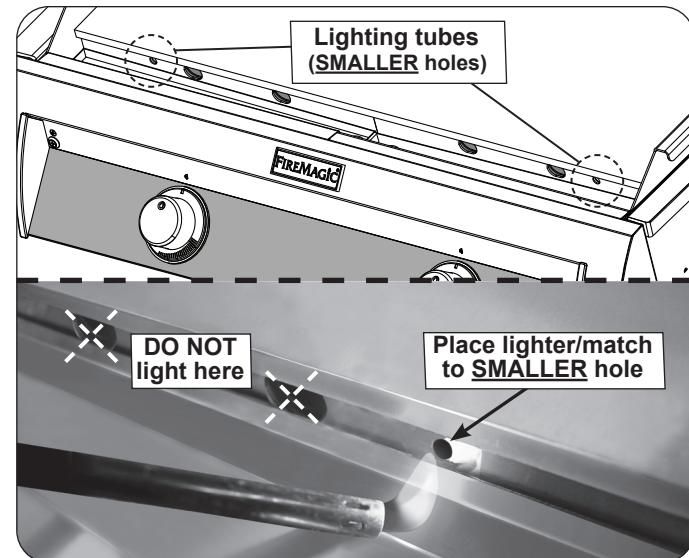

Fig. 37-3 Manual lighting
2. Hold a burning long-barrel butane lighter or burning long-stem match up to the opening of the lighting tube (**SMALLER hole**) **for 5 seconds**. Then depress the appropriate control knob and while pressing turn it counterclockwise to the **HI LIGHT** position. Remove the lighter or match when the burner lights, and release the control knob. See Fig. 37-3.